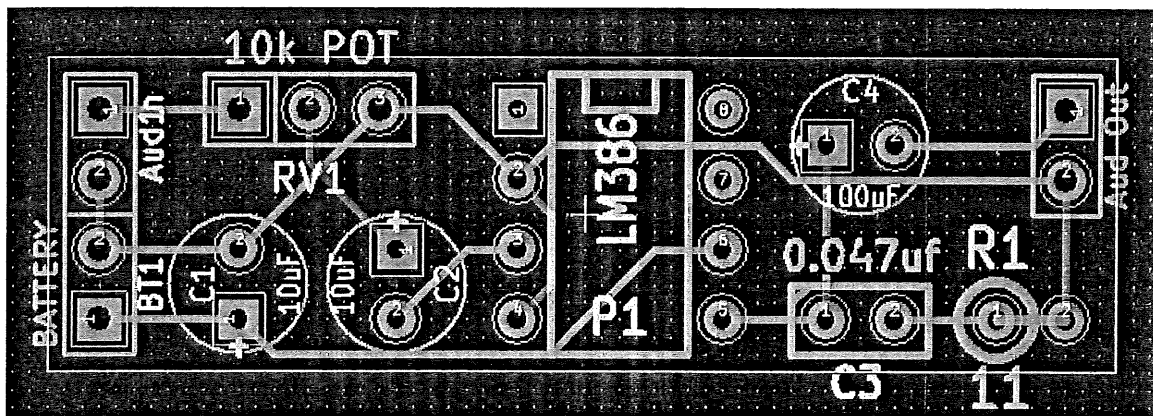

Figure 1
- a) List FOUR (4) advantages of using CAD systems to designing and simulation electronics circuits. (4 marks)
- b) List THREE (3) schematic software. (3 marks)
- c) Identify the best TWO (2) schematic software package. (2 marks)
- d) Identify the best TWO (2) PCB layout software package. (2 marks)
- e) Refer to Figure 1.